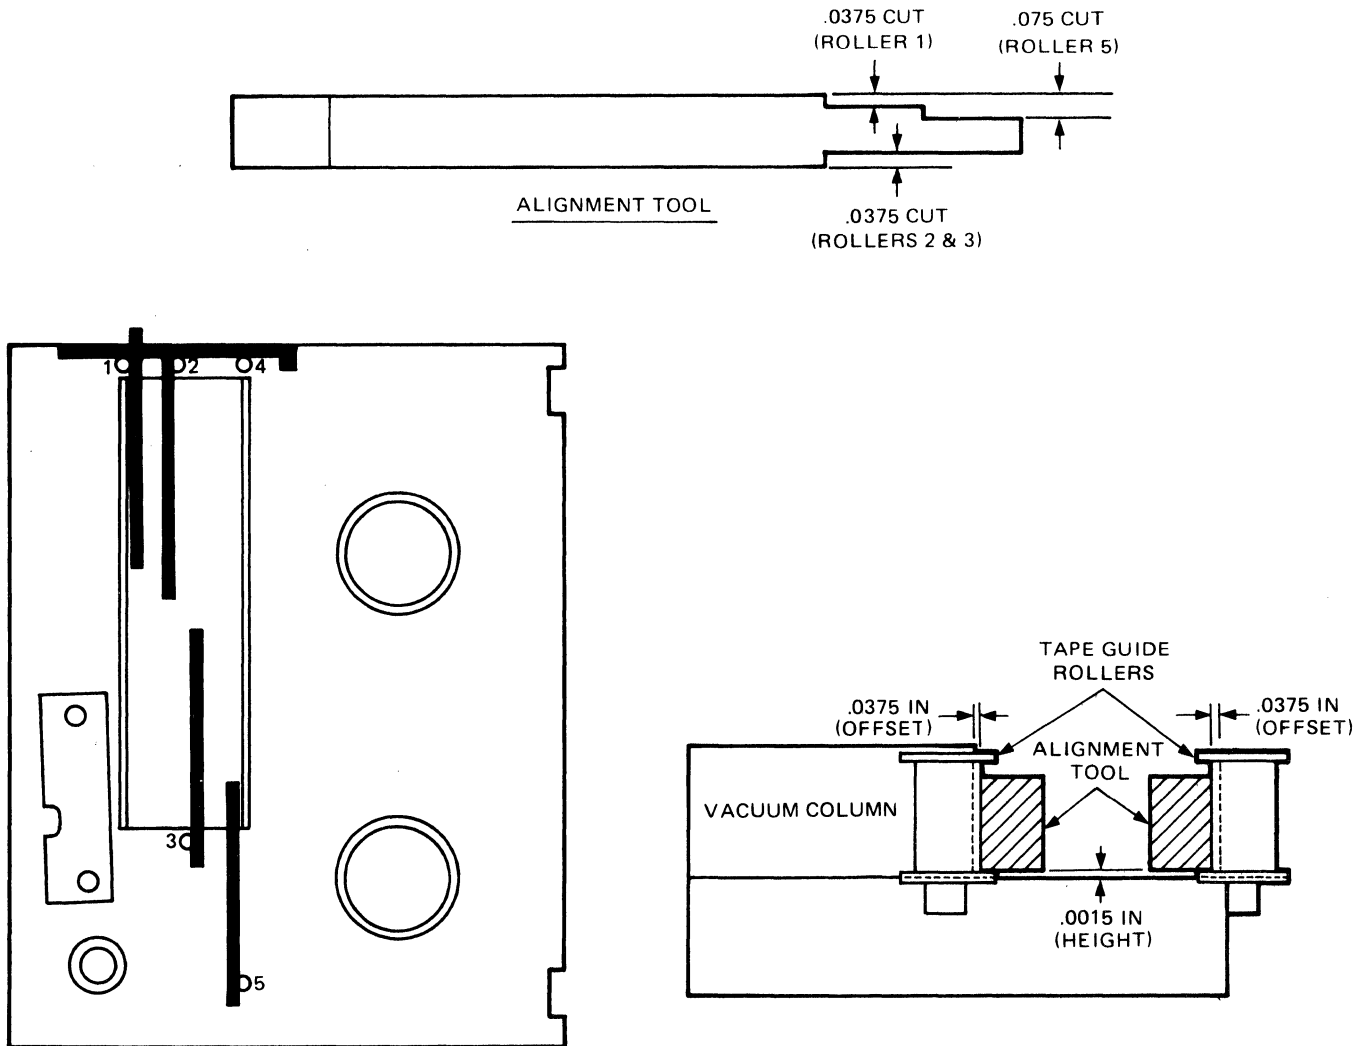

Figure 5-11. Tape Roller Height and Offset Adjustment
In figure 5-11, the top view of the door shows the five positions of the alignment tool for adjusting each roller, identified by number. The close-up view shows the two positions of the tool for aligning rollers 2 (left) and 1, looking into the end of the vacuum columns. The alignment tool illustrations show the different tool cuts used for the roller offset measurements.
- e. Position alignment tool for roller 1. Make sure proper cut is selected for checking offset, as shown in figure 5-11. If offset is incorrect, adjust as follows:
- g. With tool in same position, check roller height. As shown in close view, figure 5-11, bottom flange of roller should meet undercut of tool, which corresponds to .0015-inch height from chamber surface. To adjust height, loosen set screw in the side of the block.